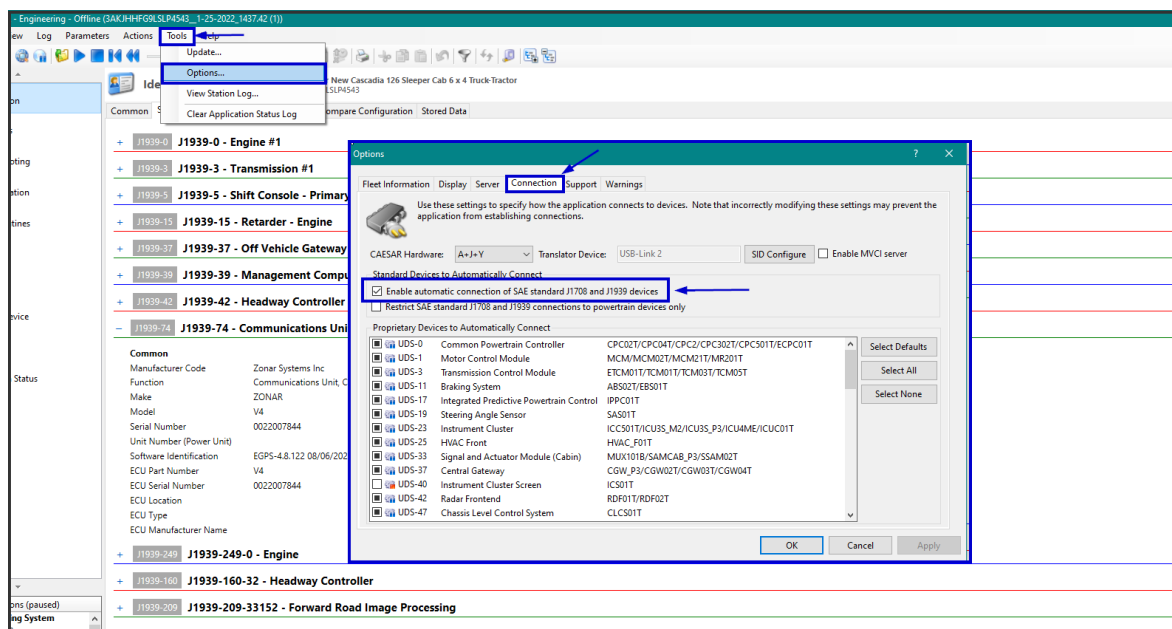

Fig. 1, Enabling J1708 and J1939 Device Automatic Connection
2. From the laptop or device, open DiagnosticLink®. Make sure that DiagnosticLink is set to 'enable automatic connection of SAE standard J1708 and J1939 devices.' See **Fig. 1**.